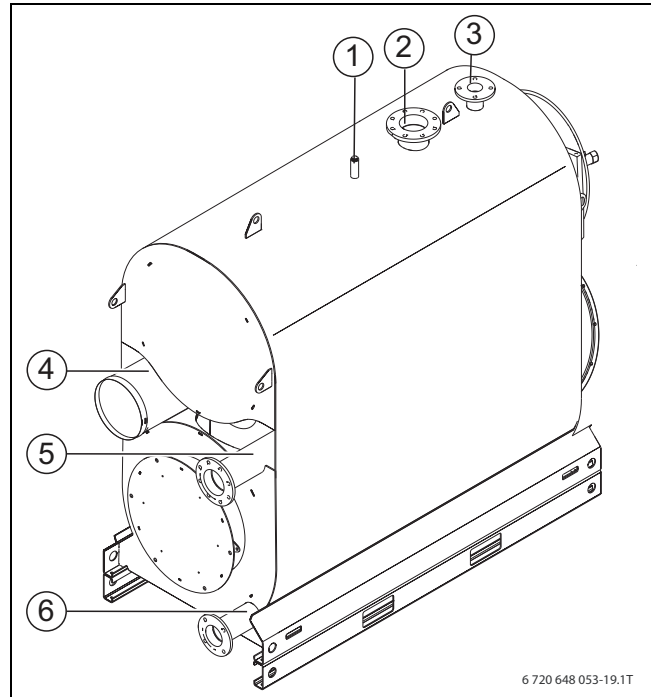

Fig. 15 Boiler connections
- ▶ Connect the safety valve to the safety flow connection (VSL) (→ fig. 15, [3], page 20). In open-vented systems, the flow safety line is connected to the connection (VSL).